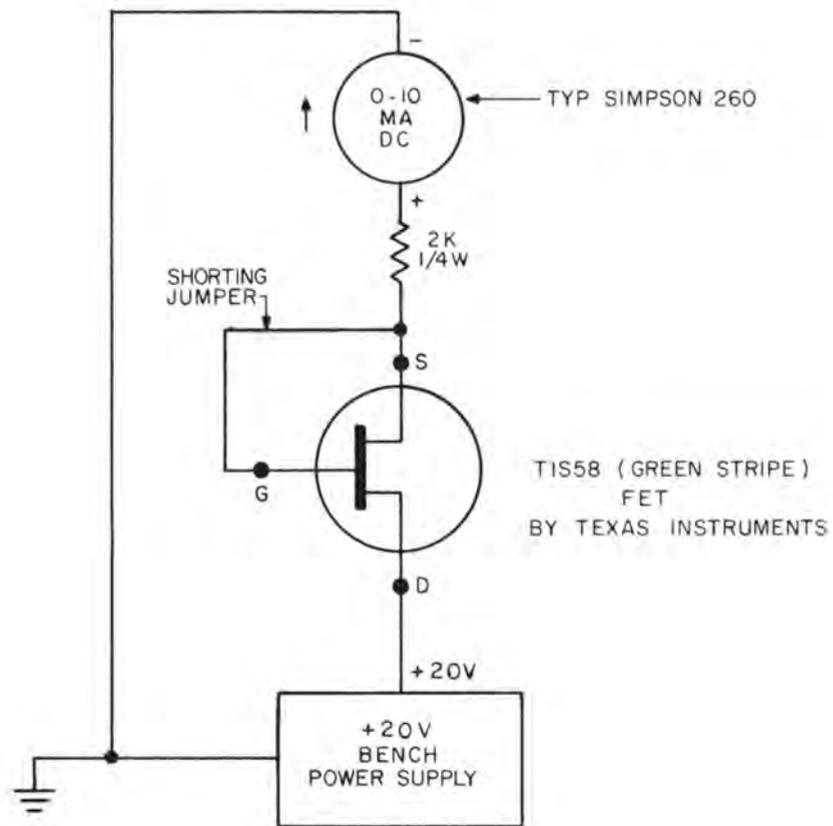

Figure 5-2.  $I_{dss}$  Bench Test Circuit for T1S58 (Grn Stripe)
1. Before inserting the replacement transistor, measure its source-to-drain current,  $I_{dss}$ , in a bench test circuit as shown in figure 5-2.